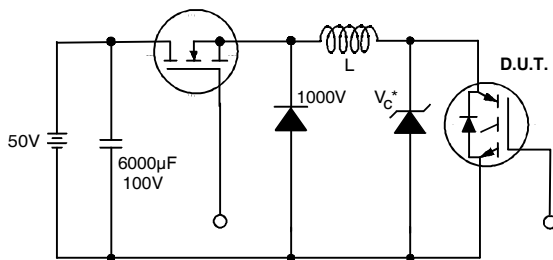

Figure 19.
- ②  $V_{CC}=80\%(V_{CES})$ ,  $V_{GE}=20V$ ,  $L=10\mu H$ ,  $R_G = 23\Omega$  (figure 19)
- ③ Pulse width  $\leq 80\mu s$ ; duty factor  $\leq 0.1\%$ .
- ④ Pulse width  $5.0\mu s$ , single shot.